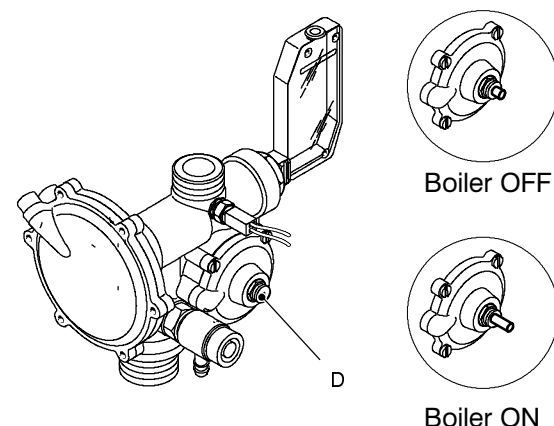

fig. 61
- 3 Start and stop the boiler in c/h operation (time switch and external controls must call for heat) and verify the position of the shaft D referring to fig. 61